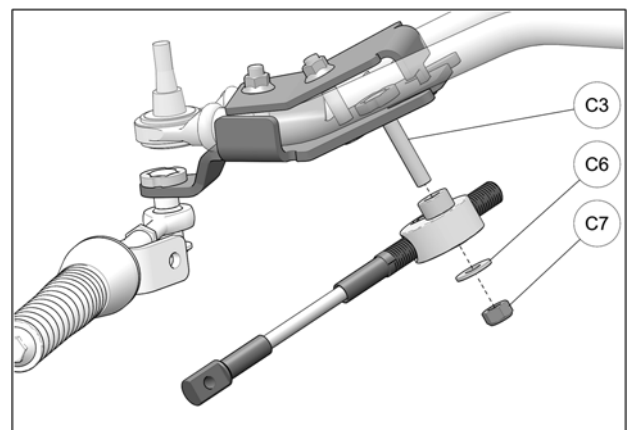

Fig. 20
12. Slip steering limiter cable assembly over bolt (C3) and use washer (C6) and nut (C7) to secure assembly to anchor bracket. Tighten nut to 50 N•m [37 lb•ft]. Refer to Fig. 20